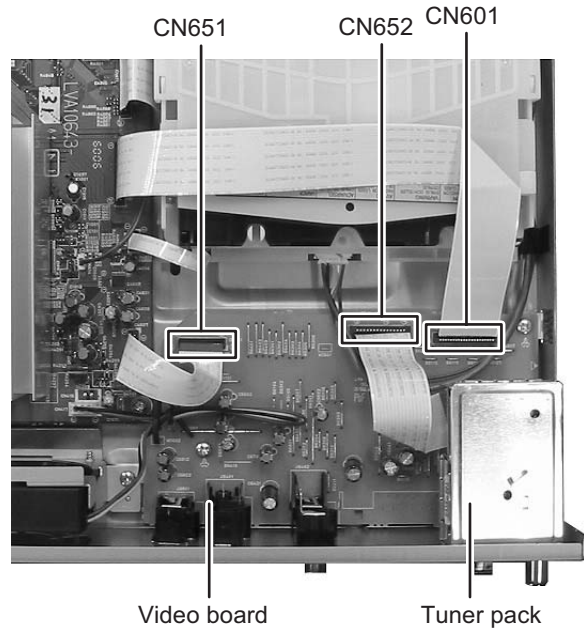

Fig.1
3.1.1 Removing the video board (See Fig.1 to 3)
- (1) Remove the metal cover.
- (2) Disconnect the card wire from CN652 of the video board, and then remove the two screws **A** attaching the tuner pack. (See Fig.1 and 2)
- (3) Remove the card wires from connector CN601 and CN651 of the video board. (See Fig.1)